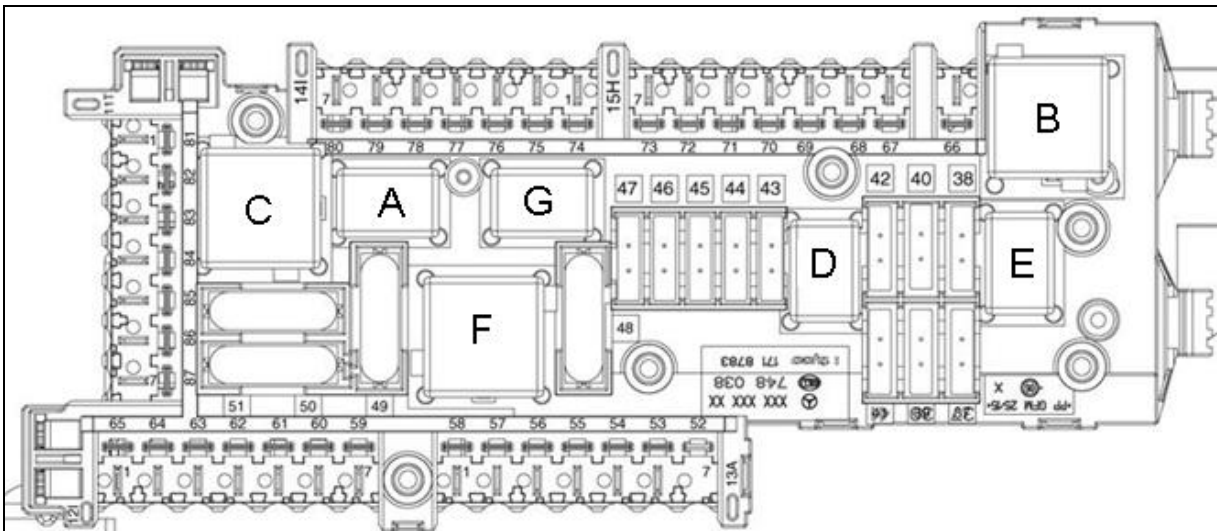

Figure 2
- Terminal 15 relay (Figure 2, Slot A)
- Fuel pump relay (Figure 2, Slot D)
- Terminal 15R relay (Figure 2, Slot G)